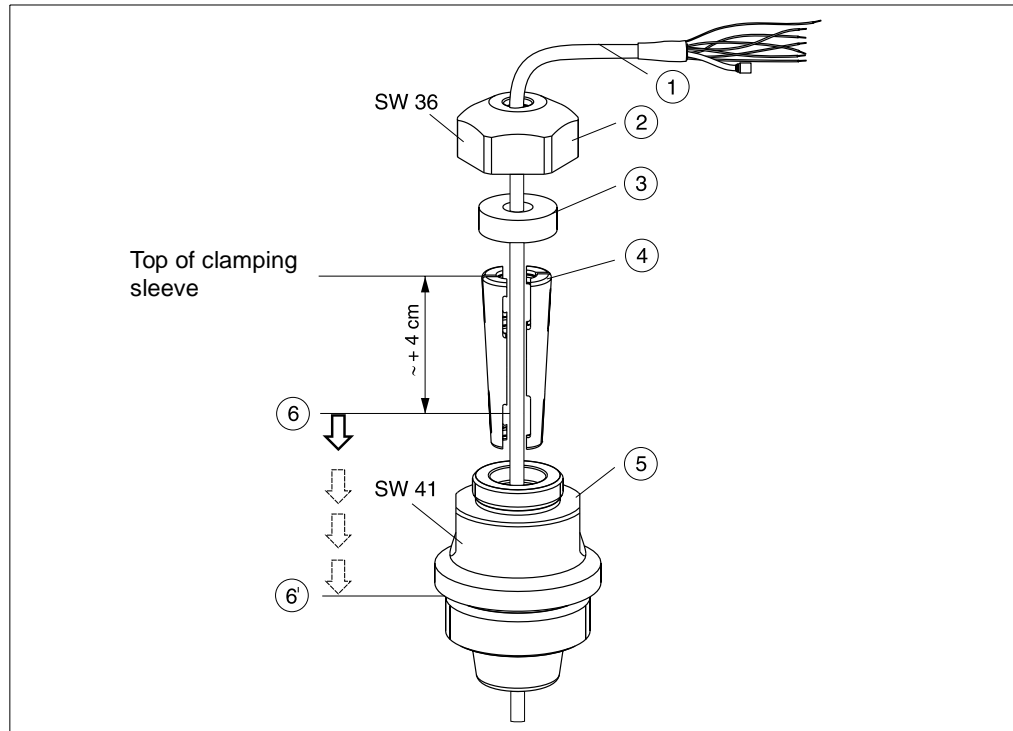

figure 5: Installing the level probe LGC with cable mounting screw, here depicted with G1½ thread
3. Push adapter (pos. 5) over extension cable and screw tightly in measuring opening.
4. Push sealing ring (pos. 3) and cap (pos. 2) from top onto cable. Press sealing ring into cap.
5. Place clamping sleeve (pos. 4) around extension cable (pos. 1) acc. to figure 5.
6. Push extension cable and clamping sleeve (pos. 4) into adapter (pos. 5).
7. Push cap (pos. 2) and sealing ring (pos. 3) onto adapter (pos. 5) and screw tightly to adapter (pos. 5).